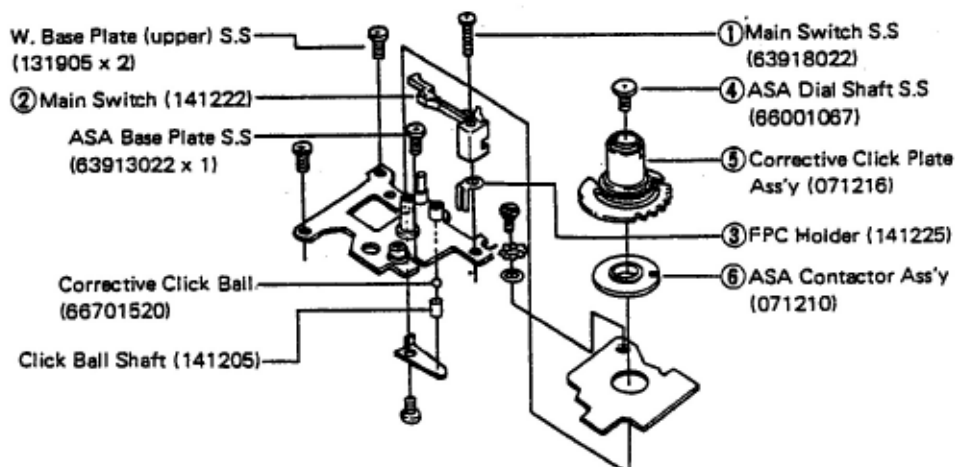

Fig. 56
- h) Remove the respective parts ① ~ ⑥ shown in (fig. 56) in numerical order.
- j) Remove the Winding Base Plate (upper) S.S. (131905 x 2) and ASA Base Plate S.S. (63913022 x 1). See (fig. 56)